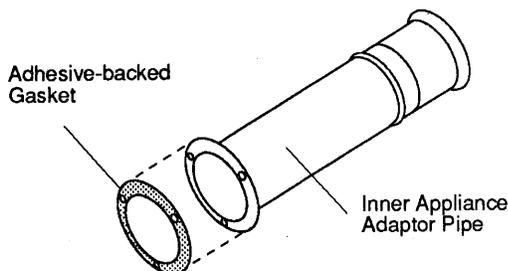

Figure 24. Attach the gasket to the Inner Adaptor.
Step 1. Attach the adhesive-backed gasket (located in the parts bag) to the flat flange of the Inner Adaptor Pipe. Fig.24. If you need to use the Restrictor Plate, attach the gasket to that plate and install the plate, gasket-side down, under the Inner Adaptor Pipe. See Figs. 7 and 9 to determine if you need to install the Restrictor Plate.